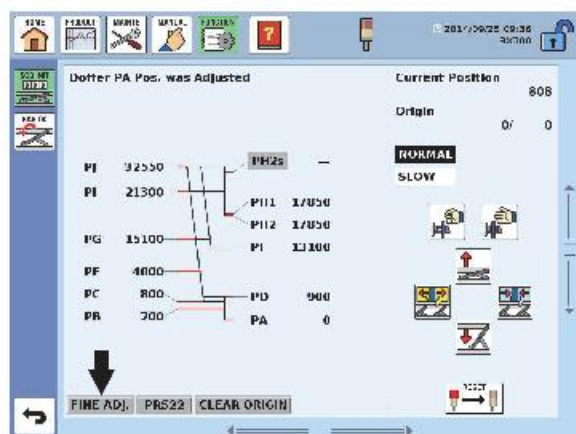

Fig.10 Doffer position adjustment screen (upon completion of origin setting)
- (7) The screen at left appears upon completion of teaching operation. Touch the [CONFIRM] switch to display the doffer position adjustment screen (Fig. 10).